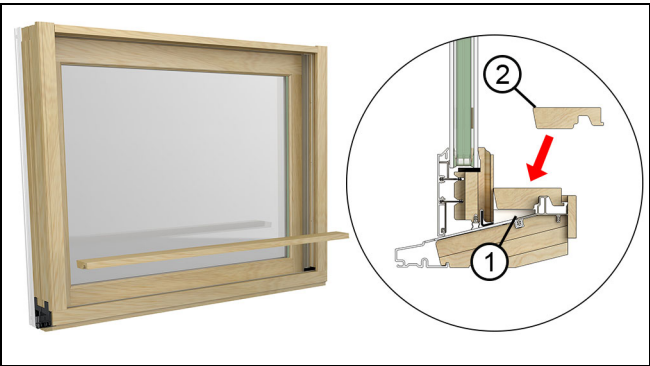

Figure 57
4. Fit the wood sill filler block over the foam block and thermal break. See Figure 57.